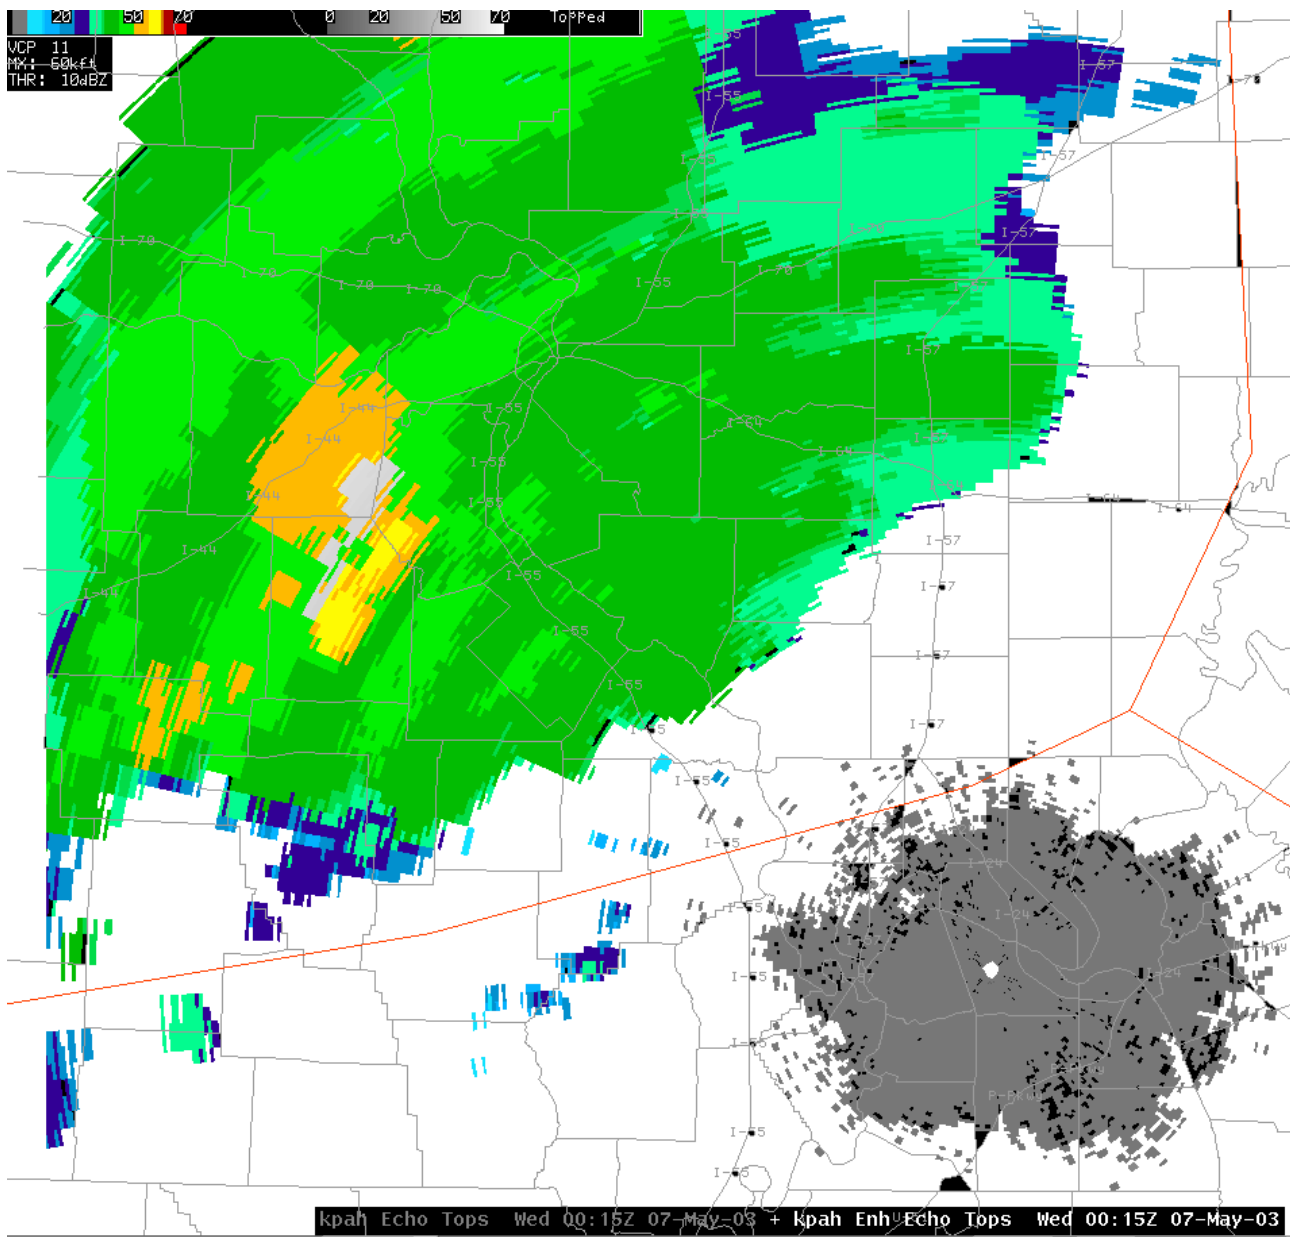

Figure 5-59. Enhanced Echo Top (EET) product
In areas where reflectivities exceed 18 dBZ on the highest elevation angle (i.e., 19.5 degrees in VCP 11, 12, 21, 121) the height is tagged as “topped”. See Figure 5-59 for an example of the EET product.
1. ***A circular stair-stepped appearance will often be evident*** due to use of discrete elevation sampling (see Fig. 5-59).